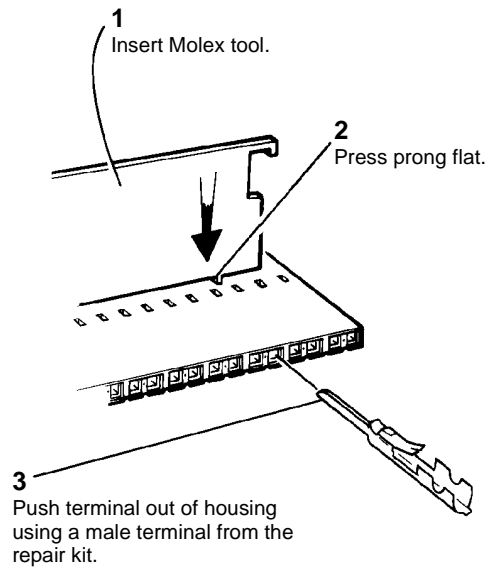

Figure 2 Removing the terminal.
2. **Figure 2.** Remove the terminal from the connector housing using the Molex extractor tool.